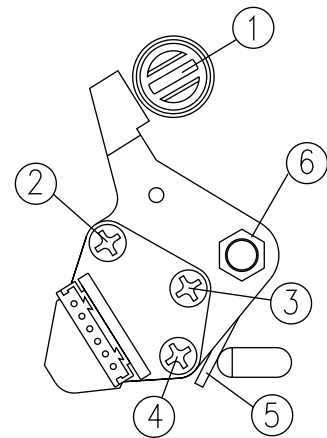

Fig. 5-3 A/C HEAD ASS'Y
C. ADJUSTMENT OF THE AUDIO AZIMUTH (See Fig.5-3)
- If the requirement "c" is not satisfied, adjust the A/C HEAD TILT SCREW and A/C HEAD HEIGHT NUT to obtain the maximum audio output. (Fig. 5-3)
- Adjust the A/C HEAD AZIMUTH SCREW to obtain the audio output -9~-3dBm. (Fig. 5-3)